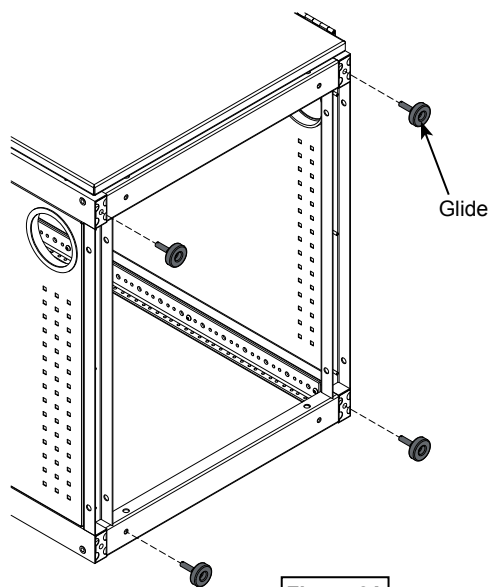

Figure 2A
2. Install the (4) glides onto the bottom as shown. **Figure 2A.** The glides can be adjusted later to level the console.